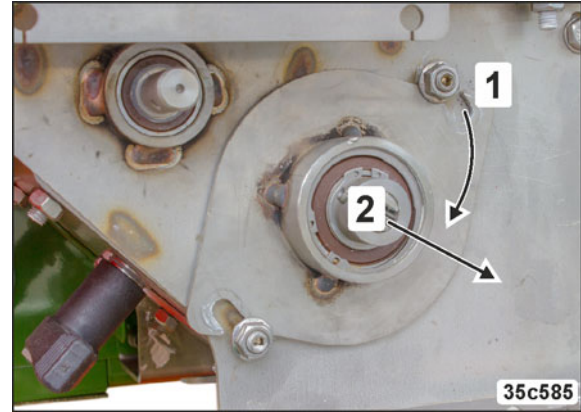

Fig. 191
4. Twist (Fig. 191/1) and remove (Fig. 191/2) the bearing cover.